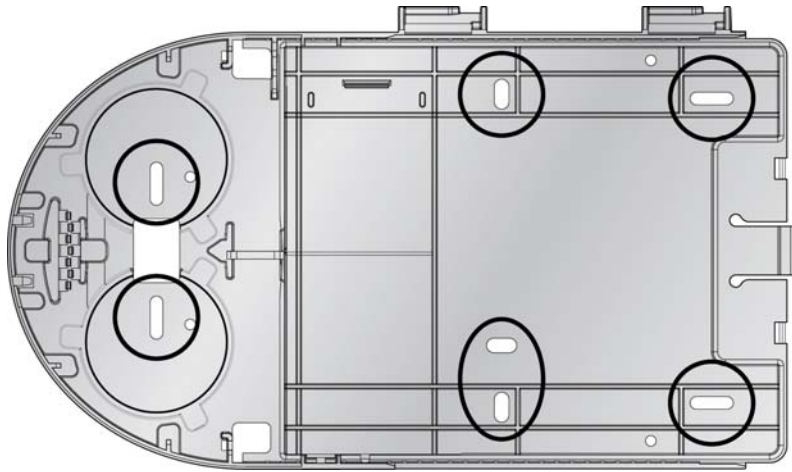

Figure 4: Bottom mounting base with mounting holes identified.
**To mount the base to a wall:** Select a wall location, mark the hole locations for the wall fasteners, then attach the base to the wall surface using the fasteners. Ensure the top edge of the base is level and that the base is flat when flush with the wall. If necessary, use washers or shims to prevent the base from warping. (Figure 4)